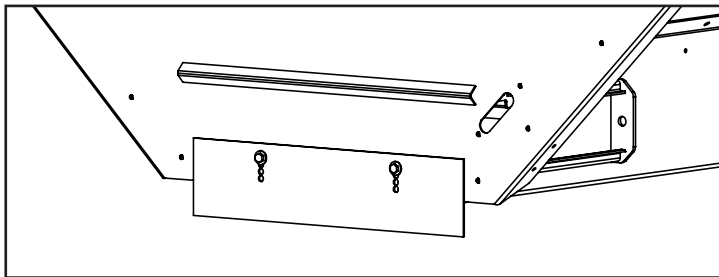
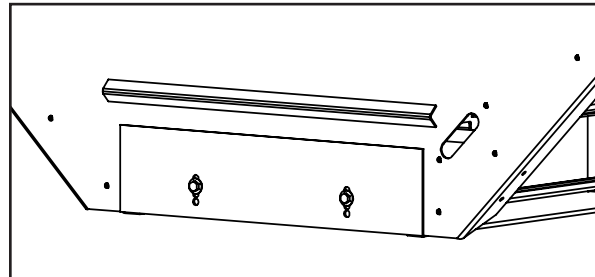

Figure 2
Figure 3
5. Figure 2 - Remove the Grease Lines (7) from Bracket (8).
6. Figure 3 - Support endgate by attaching a hoist to the lift hooks. Remove hardware (9) from both sides of the endgate and carefully remove from the spreader.
To adjust main bin's feedgate opening, position front feedgate on MULTAPPLIER/MULTIBIN as necessary to achieve a 1 1/2 inch (3.81 cm) (Figure 2) to 4 inch (10.16 cm) (Figure 3) opening in 1/2 inch increments.